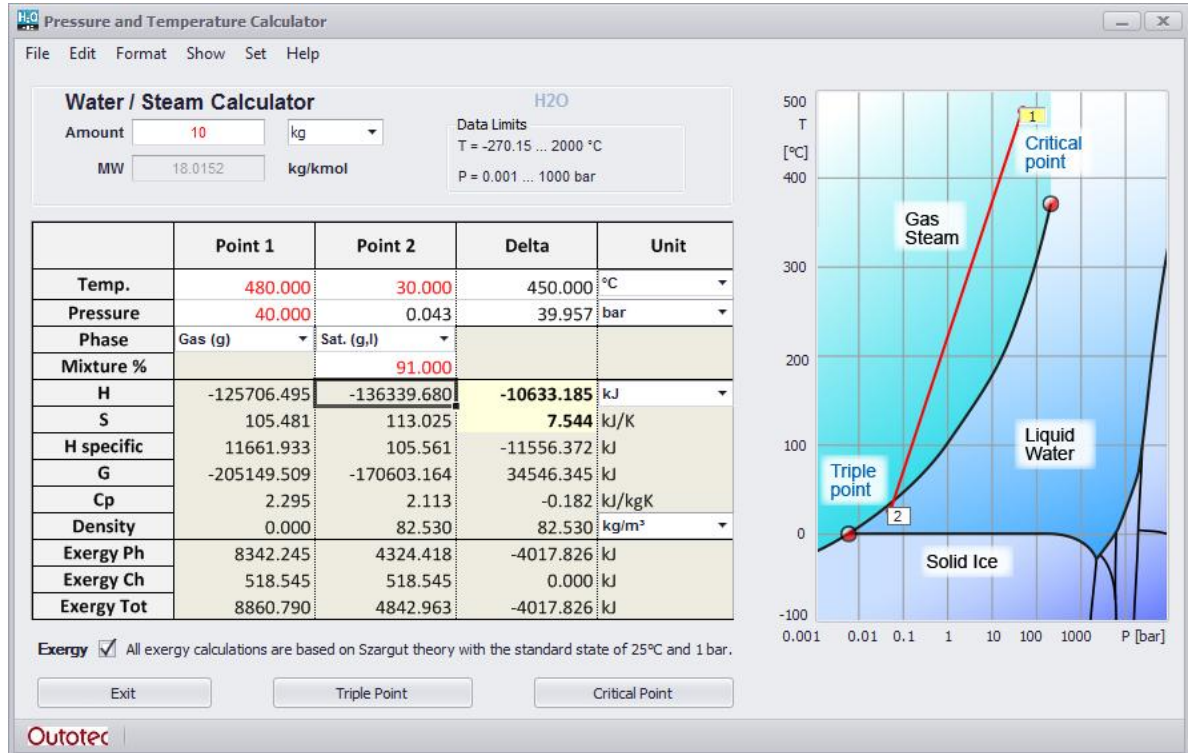

Fig. 4. Steam turbine process.
A simple steam turbine process is shown in Fig. 4. The calculation shows that the net enthalpy for a mass flow of 10 kg/s is -10633 kW and thus exothermic, i.e. the enthalpy is released in the form of work on the shaft. The entropy generation is 7.5 kW/°C and the process is therefore not isentropic. By decreasing the Mixture % (in this case ~ 81.7 %), the process may be compared with the ideal isentropic process for which there is no entropy generation. The enthalpy released in the isentropic process is -12903 kW and the isentropic efficiency is therefore, according to Equation (2), $\eta_{s,t} = -10633$ kW / -12903 kW = 0.82 .